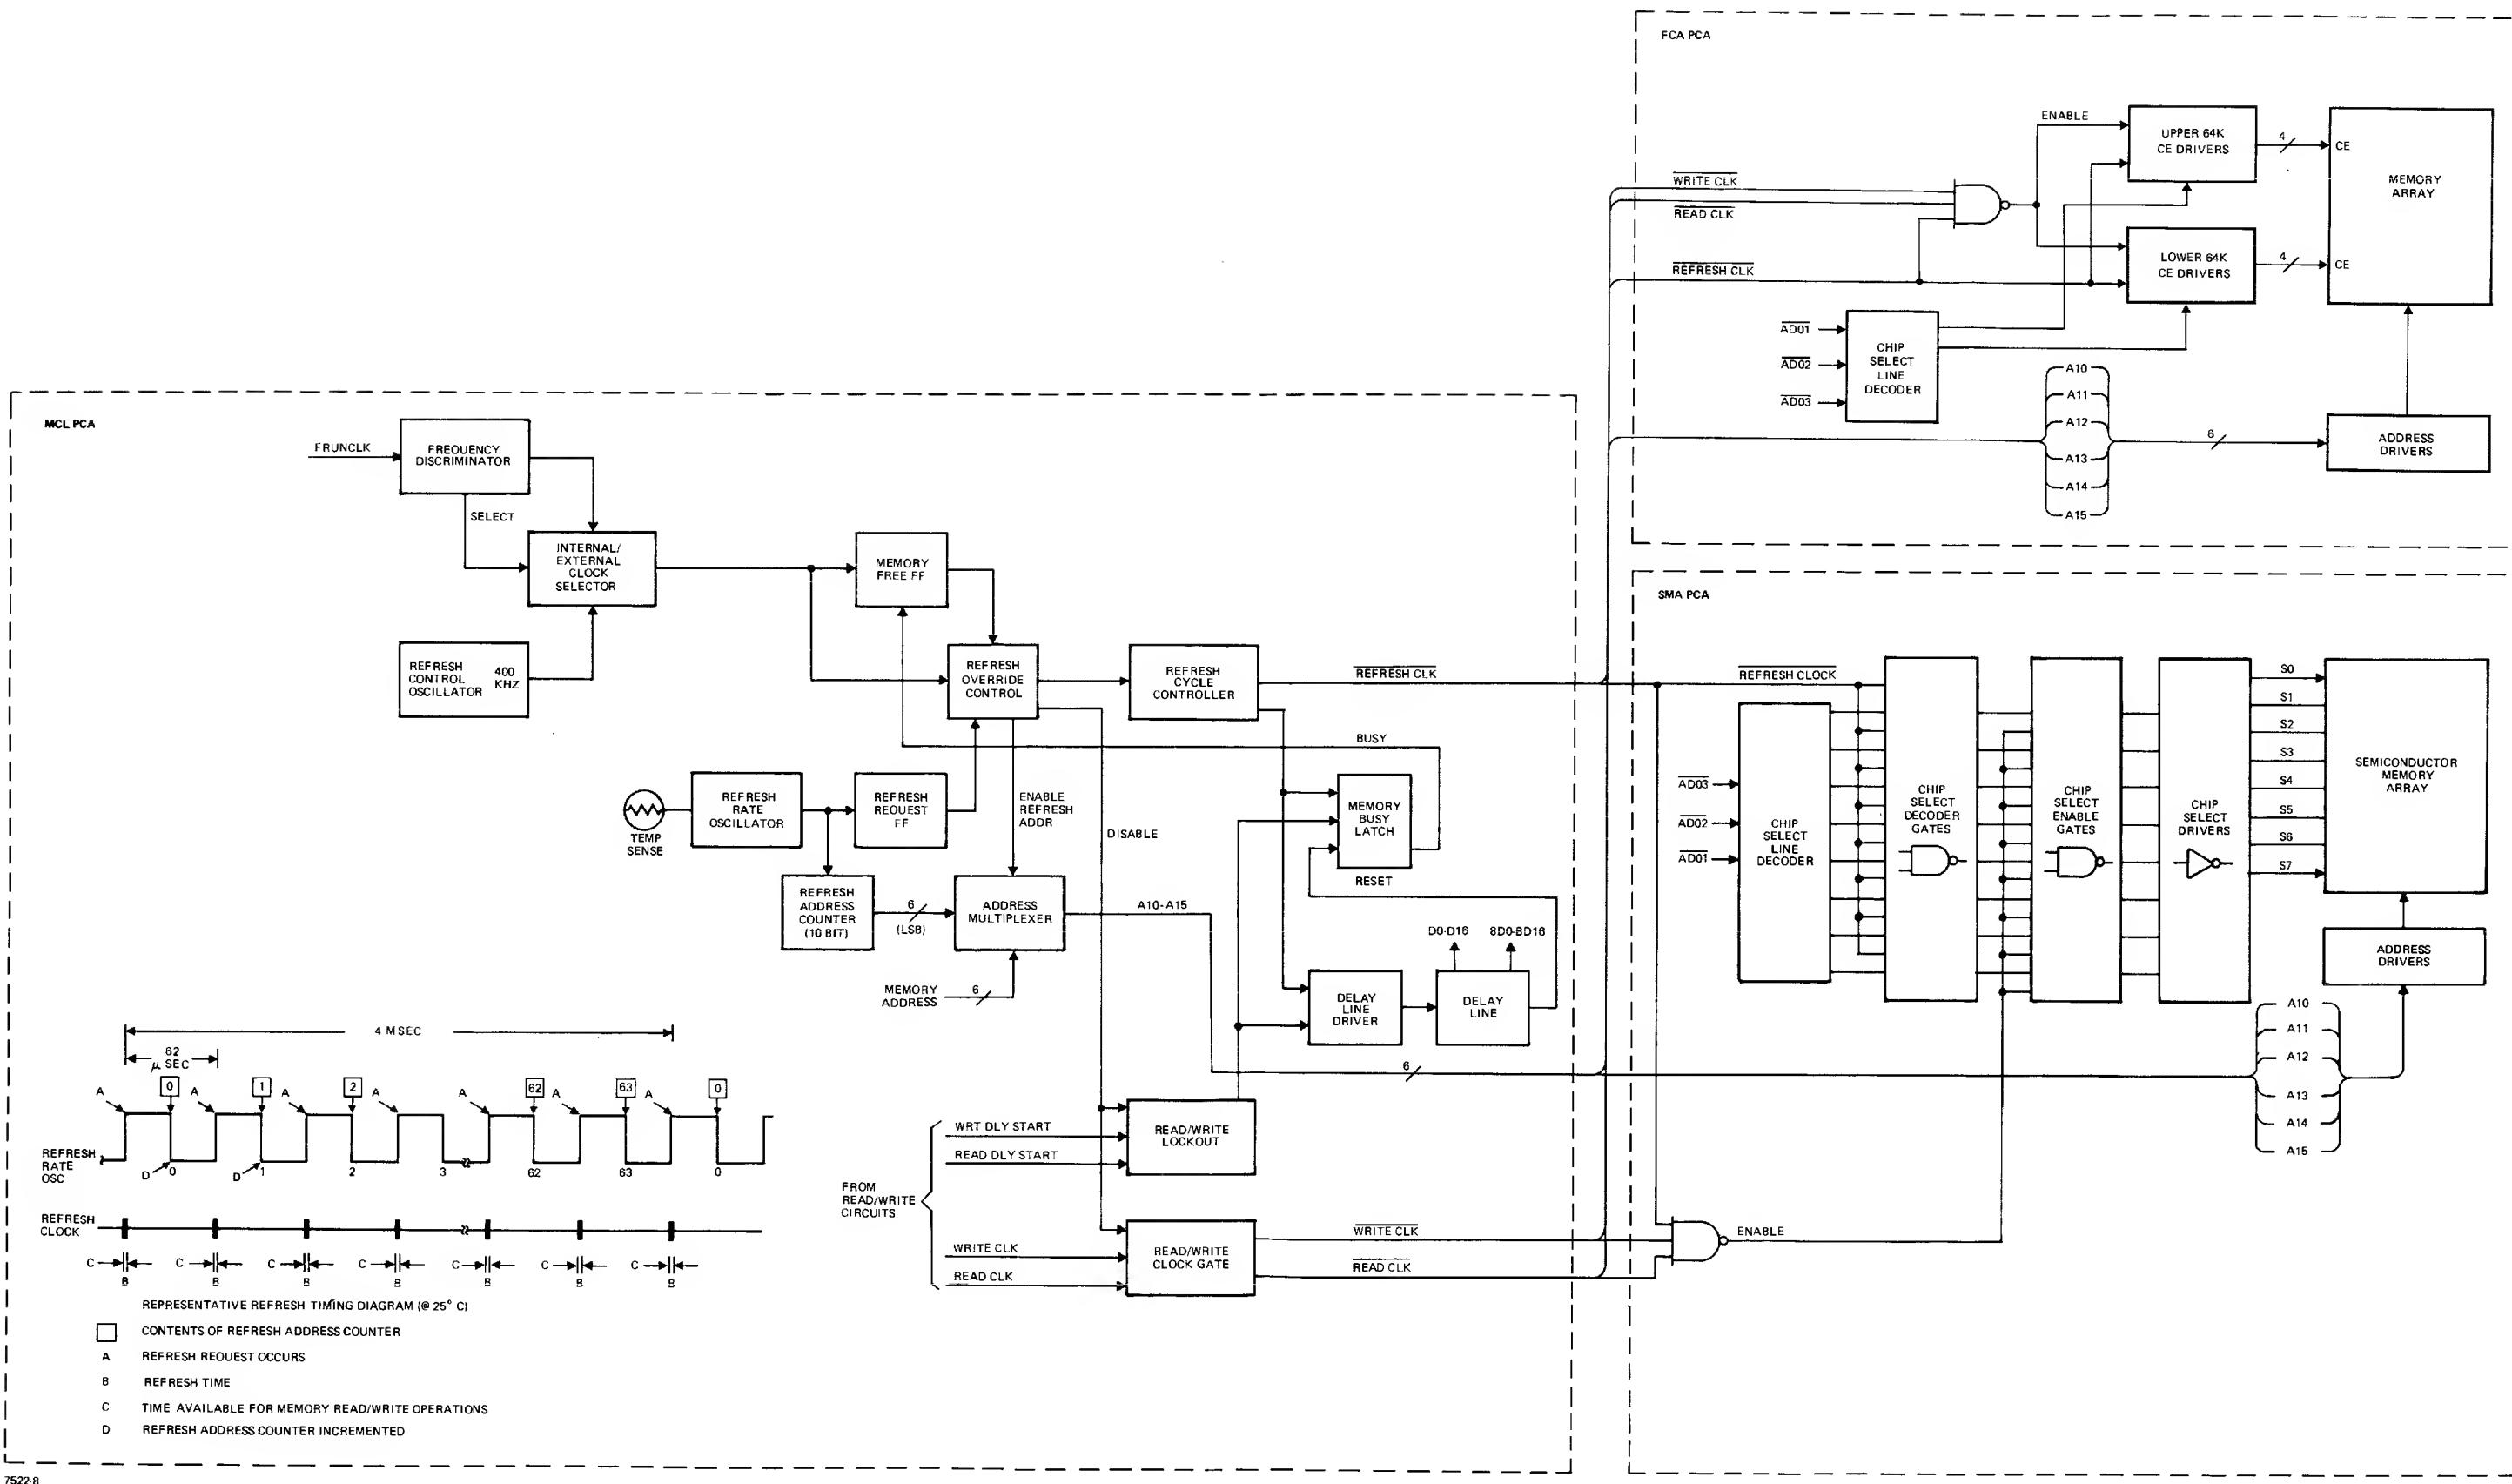
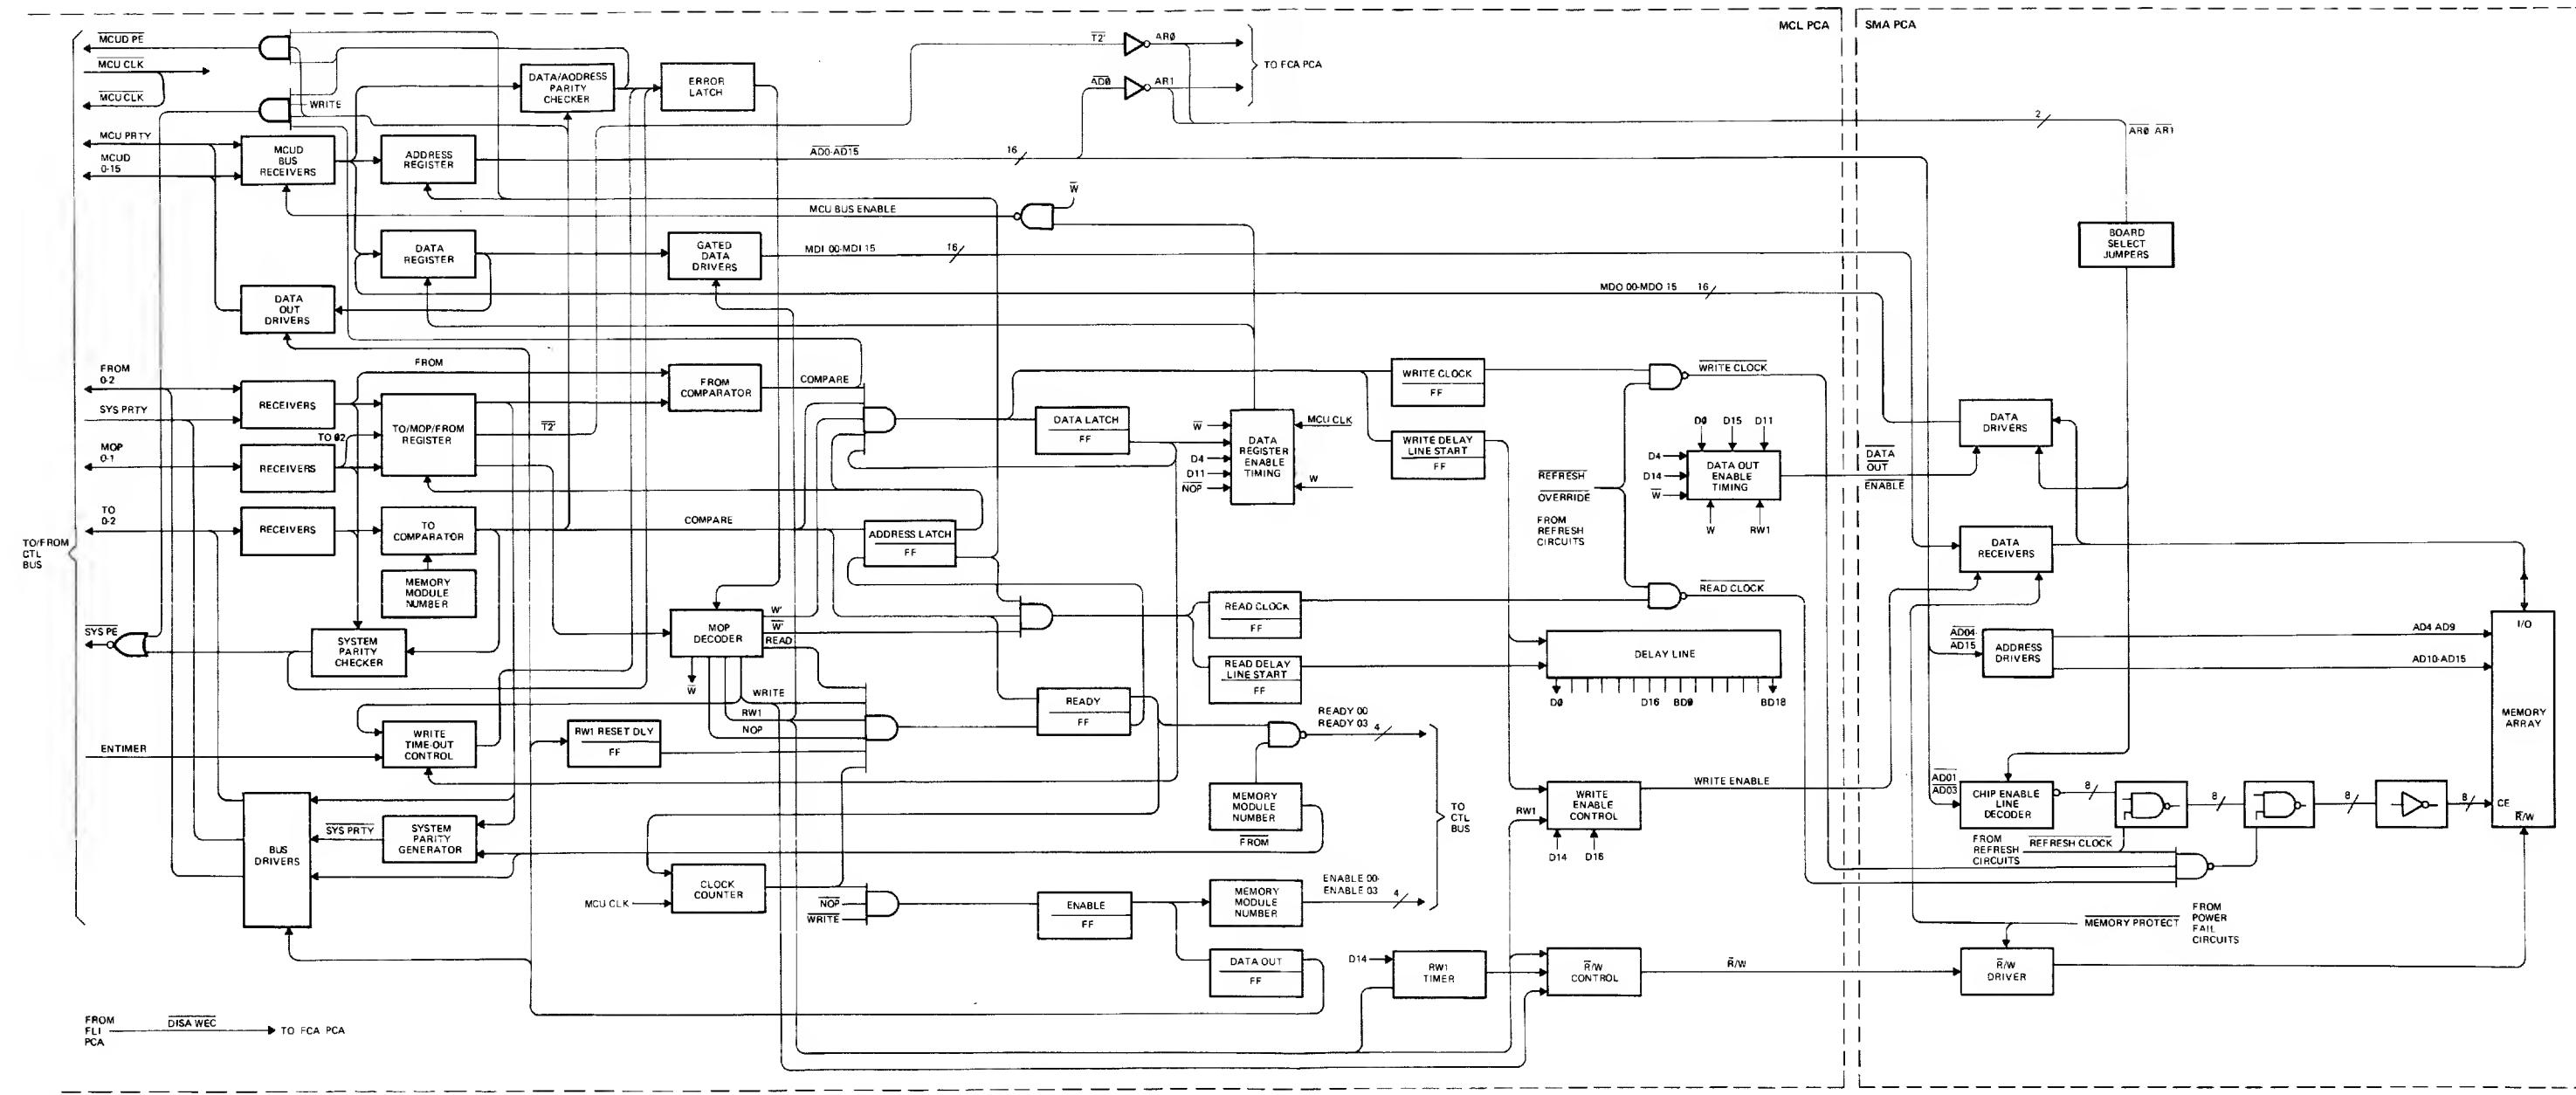

Figure 4-35. Refresh Circuit Functional Block Diagram
Figure 4-36. Memory MCU Functional Block Diagram
Figure 4-35 is a functional block diagram of the refresh circuitry. The FRUNCLK signal from the CPU is examined by the Frequency Discriminator to determine if the frequency is within tolerance for refresh circuit operation. FRUNCLK is normally produced internally by the CPU, but for maintenance purposes, the FRUNCLK can be generated from an external source. When FRUNCLK is absent or too slow, the Frequency Discriminator directs the Internal/External Clock Selector to select the free running Refresh Control Oscillator output (approximately 400kHz) as the REFRESH CLOCK. When the FRUNCLK is present and within tolerance, it is selected by the Internal/External Clock Selector as the REFRESH CLOCK.
The following discussion of memory operations are referenced to the MCU (Module Control Unit) functional block diagram, figure 4-36. The four possible memory operations are READ (10), Write (01), RW1 (Read Write one's 11) and NOP (No Operation 00). The MCU, located on the MCL PCA, controls communications between the CTL bus and the memory array.
Fault correction and error logging occurs on the MCL PCA. Generation and storage of the check bits and generation of the error code occurs on the FCA PCA. The FCA PCA effectively operates in parallel with the SMA PCA. See figure 4-35 which shows the interface between the MCL, SMA, and FCA PCA's. With the exception of NDISWEC, and MDO lines, all remaining signals from the MCL MCU Timing and Control Circuits shown in figure 4-36 are also applied to the SMA PCA. Whenever a read, write, or refresh operation occurs on the SMA PCA, the same operation occurs on the FCA PCA. The same address is accessed on each array PCA, however, the data being read or written is not the same.